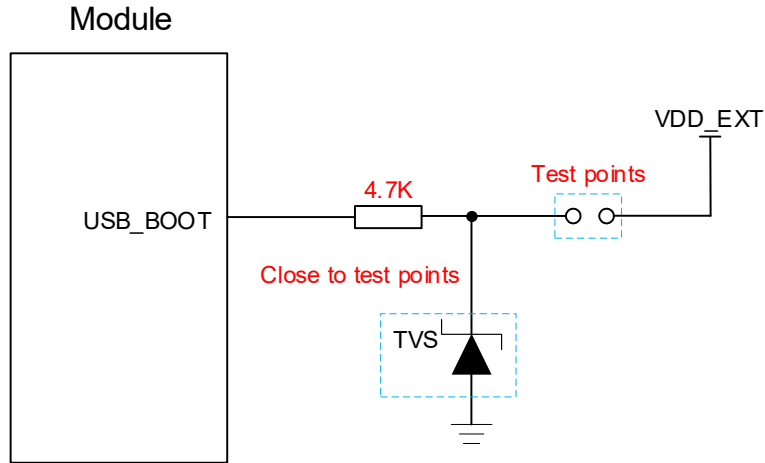

Figure 19: Reference Design of USB_BOOT Interface
3. Directly connect the test points as shown in **Figure 19** can manually force the module to enter download mode.